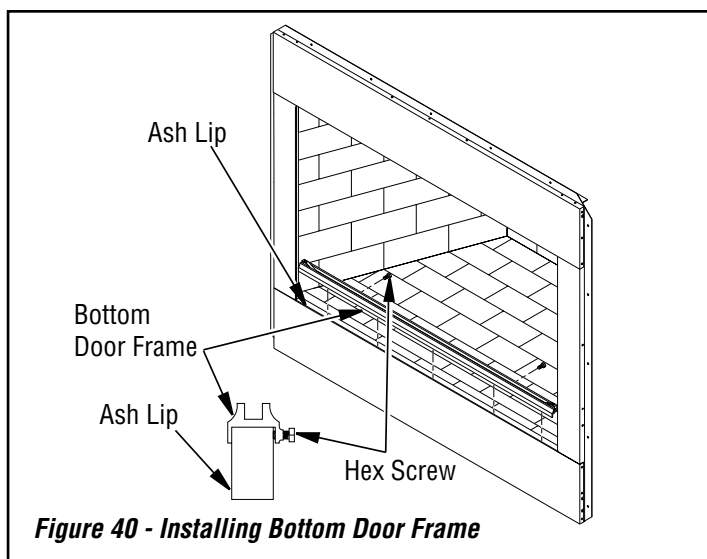

Figure 40 - Installing Bottom Door Frame
3. Place bottom door frame on top of ash lip at front of fireplace (see *Figure 40*).
4. Secure bottom door frame to brick with two hex screws provided as shown in *Figure 40* using a 7/16" open end or adjustable wrench.